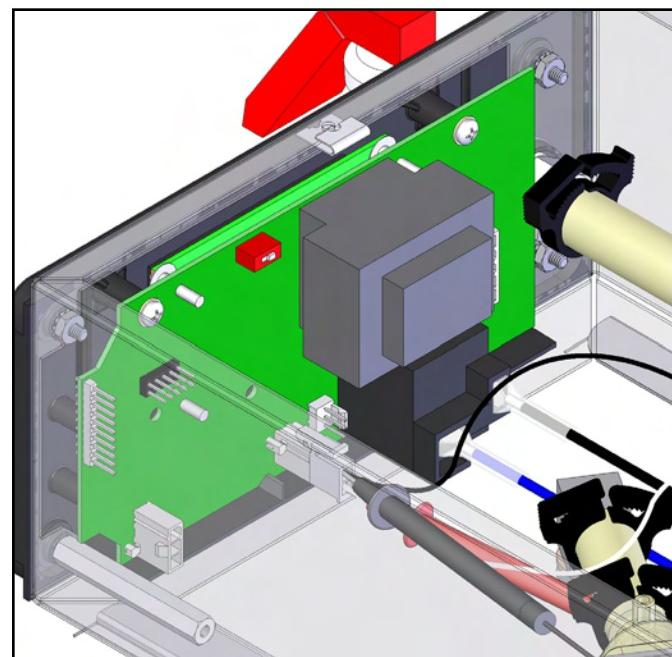

FIG. 18-2 TESTING TEMPERATURE PROBE
2. With a DC voltmeter, check voltage across the two wires at J9 on control board (Black-probe to black wire, red probe to white wire. refer to FIG 18-2). Connect the brewer to the power source. The indication should be *aproximately* between 4vdc cool to 1vdc at ready temperature.